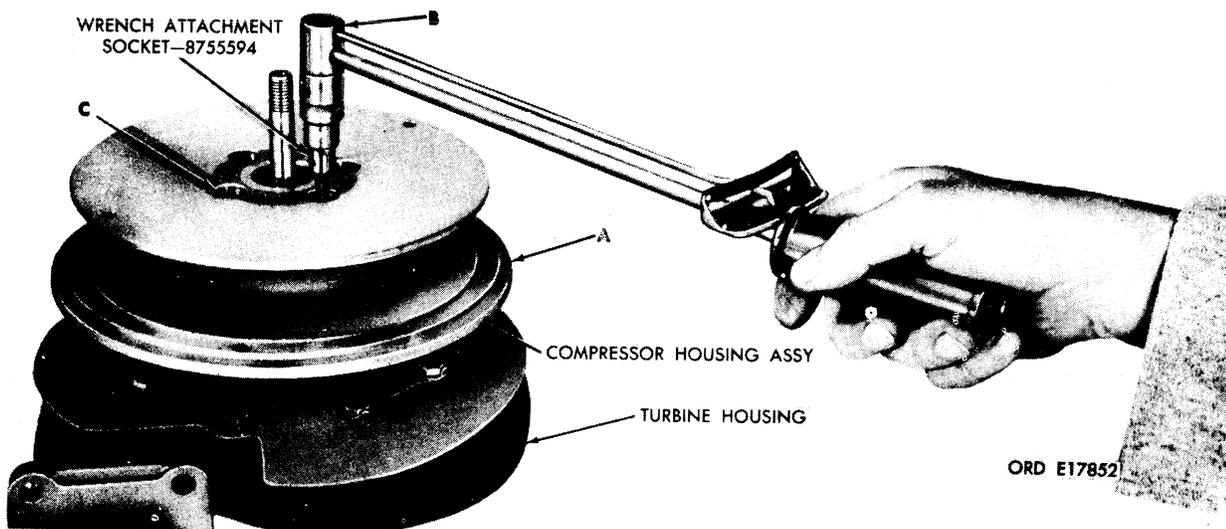

FIGURE 54. INSTALLING COMPRESSOR HOUSING ON TURBOCHARGERS 7748900 AND 10935279.
- (c) Position spring washer (C) over thrust collar assembly and against flanged thrust washer.
(4) Refer to figure 54.